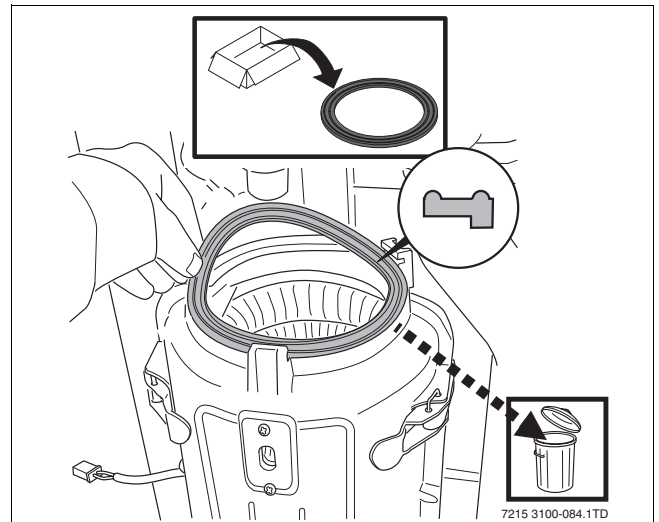

Fig. 72 Replace burner seal
- Remove the old burner seal (→ fig. 72).